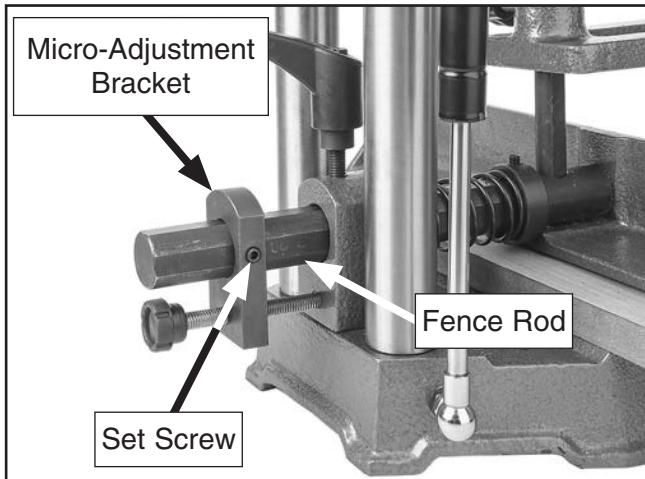

Figure 12. Fine adjustment knob and collar.
7. Slide micro-adjustment bracket (see **Figure 12**) onto fence rod, and tighten M6-1 x 12 set screw against flat side of rod.